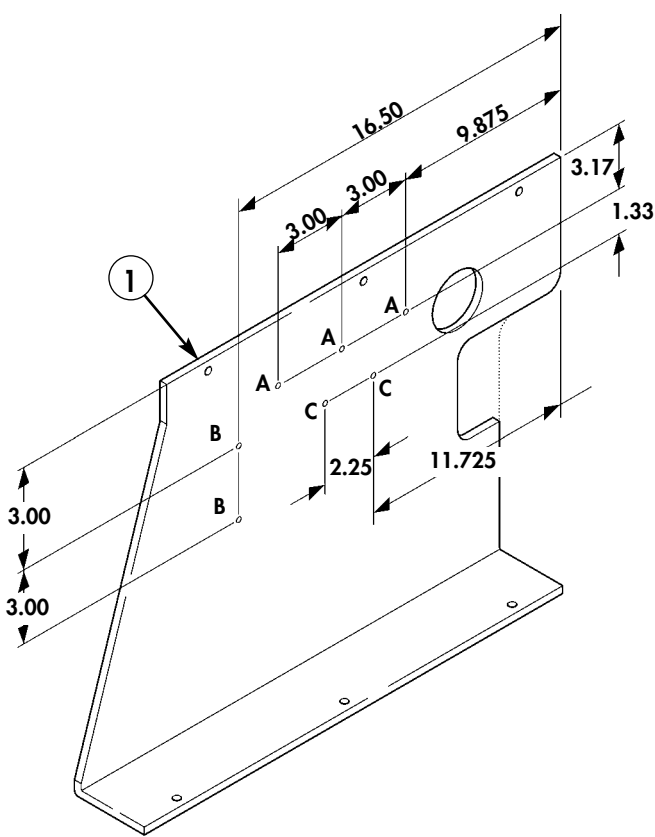

Figure 5-2.
- Use figures 5-2 or 5-3 to identify cab enclosure panel that is being modified.